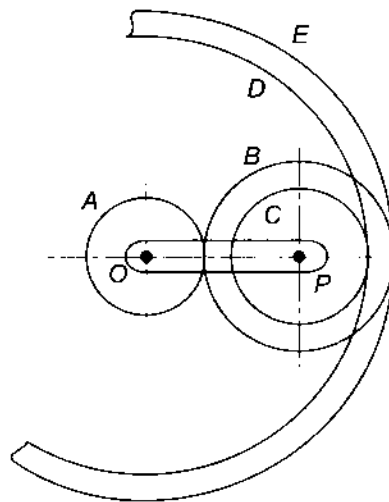

Fig.12.30 Compound epicyclic gear train
- 9 Figure 12.30 shows diagrammatically a compound epicyclic gear train. Wheels A , D and E are free to rotate independently on spindle C , while B and C are compound and rotate together on spindle P , on the end of arm OP . All the teeth on different wheels have the same module. A has 12 teeth, B has 30 teeth and C has 14 teeth cut externally. Find the number of teeth on wheels D and E which are cut internally.